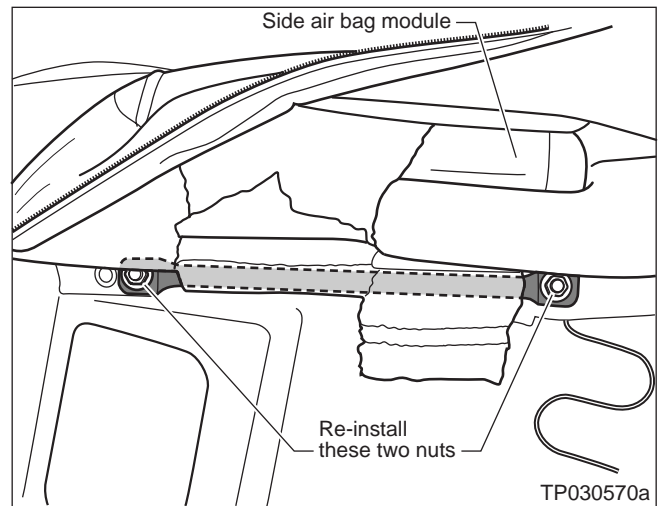

Figure 13
15. Attach the nuts on the support rod (see Figure 13).